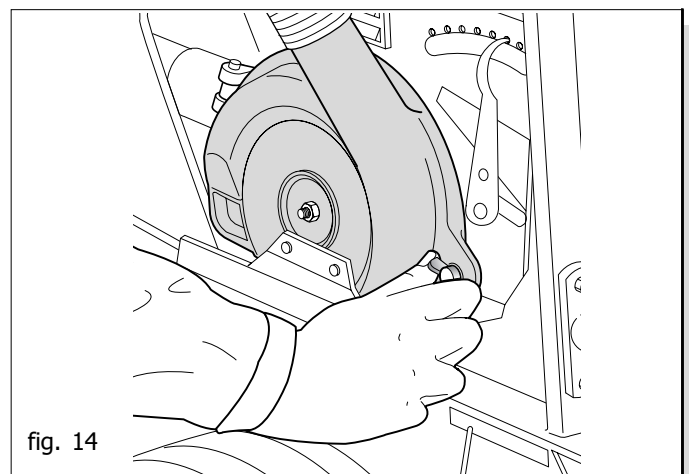

fig. 14
- Hand-tighten only the winged nut that closes the cover (Fig. 14).